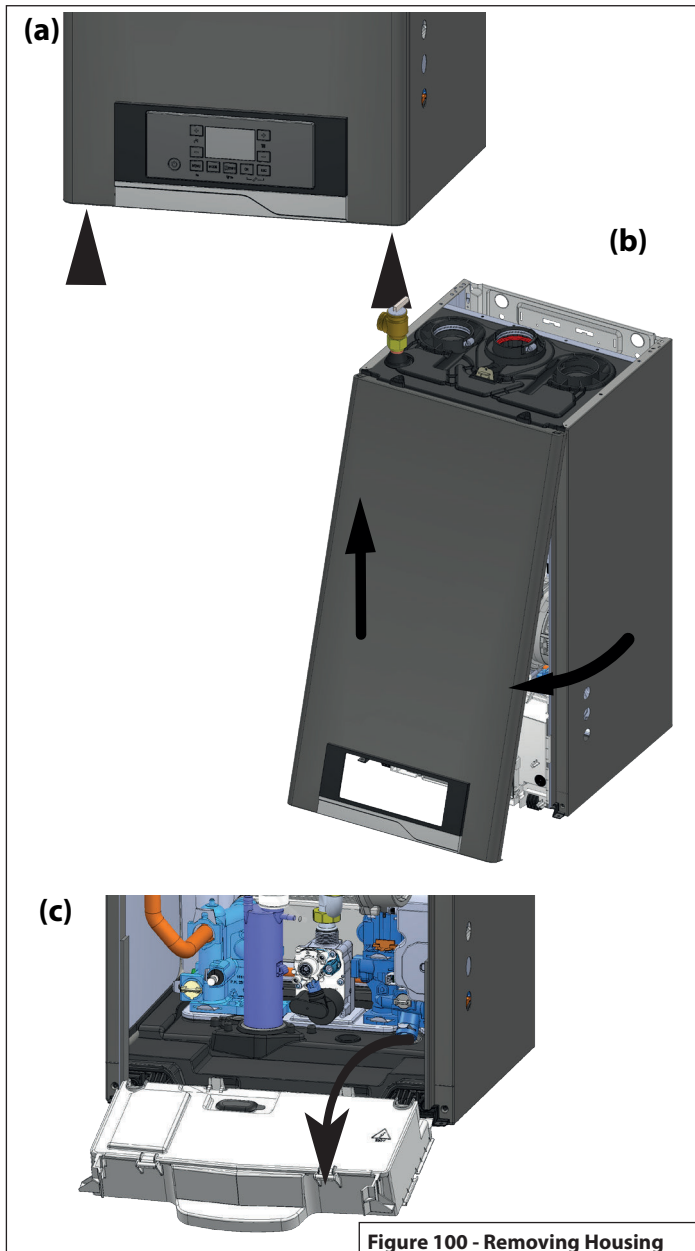

Figure 100 - Removing Housing
See Figure 100 to access the interior of the boiler:
- Remove the front panel as shown in Figure 100.